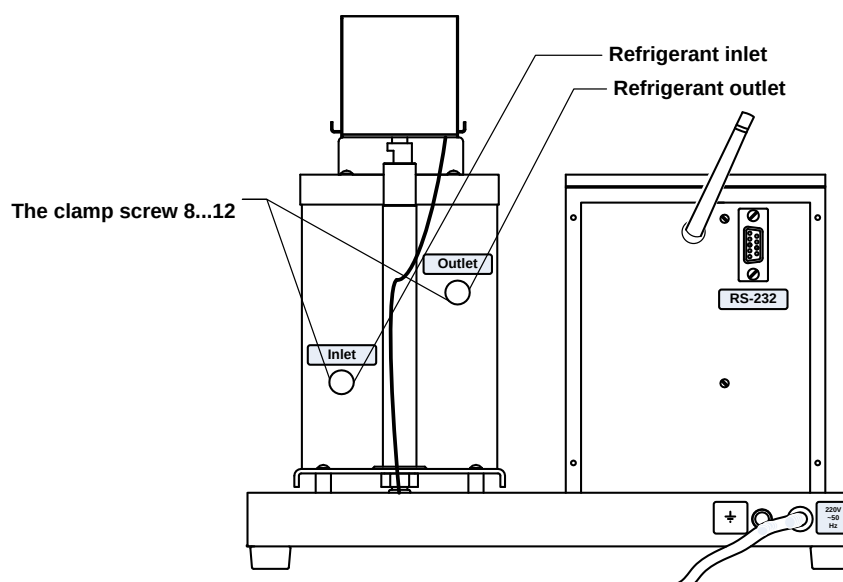

Figure 4 – The connection of the refrigerant
4.4.1.7 During connection ATH-20 to water supply, use medical polyvinyl chloride tubes to connect the water tap to the inlet of the cooling block (marked as "**Inlet**"), and the outlet of the cooling block (marked as "**Outlet**") to the sewer for draining (see figure 4, 5).